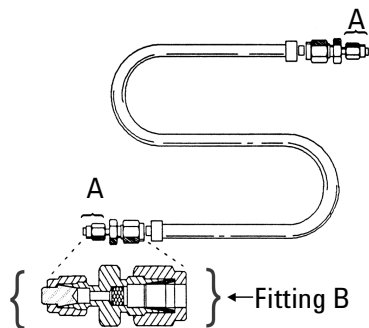

Figure 1. Conditioning the Trap
To condition the trap (Figure 1), remove caps (A) on both ends. Attach one end of the trap to gas supply with suitable tubing. If the trap has been used, attach gas supply to downstream end to reverse flow direction through the trap.